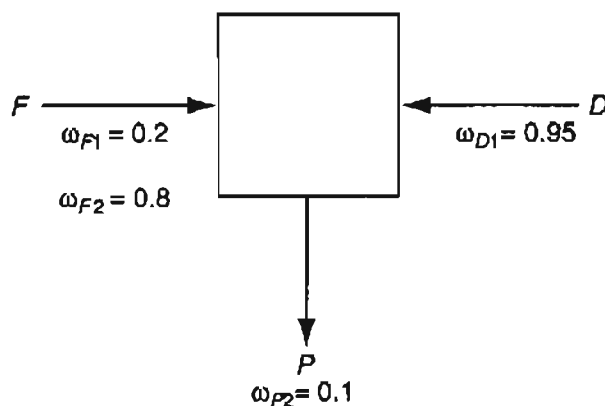

Figure SAT7.2P3
3. How many values of the concentrations and flow rates in the process shown in Figure SAT7.2P3 are unknown? List them. The streams contain two components, 1 and 2.